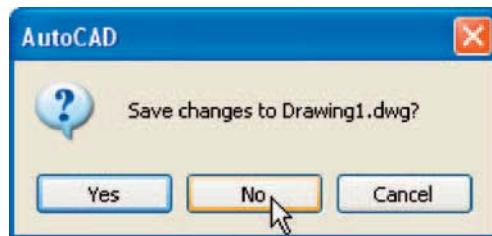

Fig. 2.5 The AutoCAD warning window
2. The warning window Fig. 2.5 appears in the centre of the screen. Click its **No** button.